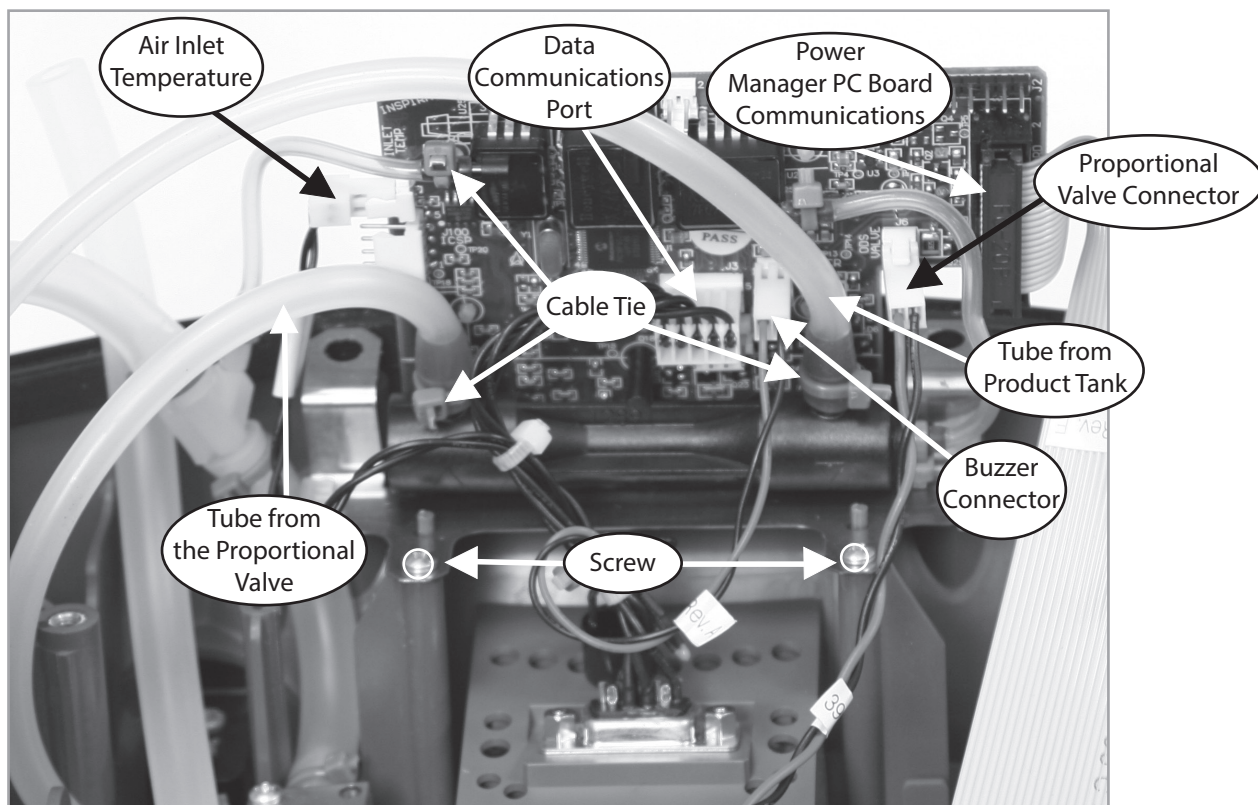
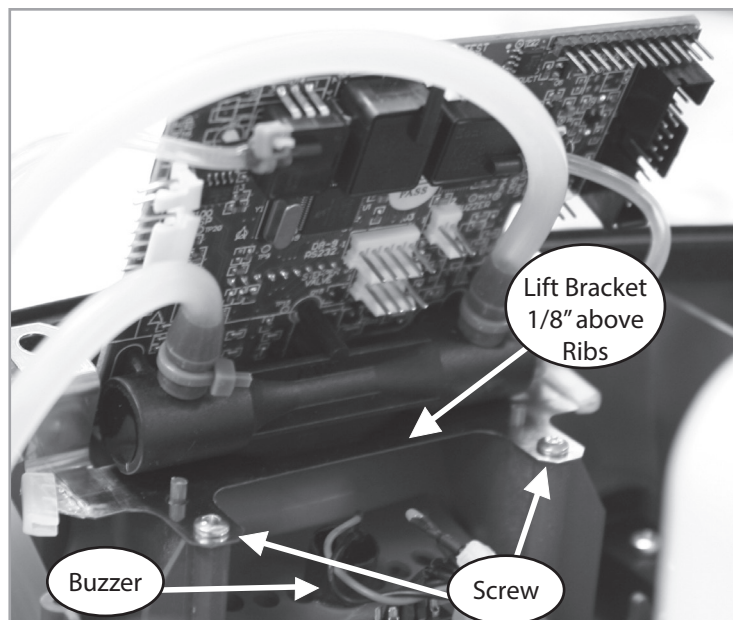

Figure 51: Control Board Removal (ATF Module not shown for clarity).
Figure 52: Control Board Installation.
2. Remove the 2 screws (M3x10 Plastite Screw, P/N 6950-310-SEQ) holding the Control Board Assembly to the Unit Case as shown in Figure 51.
3. Lift the Control Board Assembly and disconnect the Inlet Air Temperature, Data Communications Port, Power Manager PC Board Communications, Proportional Valve wire harness, and Buzzer wire harnesses as shown in Figure 51.
4. Lift the Control Board out of the Unit. Cut the green cable tie to the silicone tube that is connected to the sensor as shown in Figure 51. Disconnect the silicone tube that is attached to the sensor. Cut the green cable ties to the silicone tubes that are connected to the flow tube as shown in Figure 52. Disconnect the silicone tubes that are attached to the flow tube.
7. To install a new Control Board Assembly, cut the cable tie used to pinch the silicone tube coming from the product tank. Attach this tube and the tubes from the Proportional Valve and from the Product Tank to the flow tube as shown in Figure 51. Secure with a cable tie. Connect the silicone tube to the sensor as shown in Figure 51. Secure with a cable tie. Place the 2 screws in the sheet metal bracket as shown in Figure 52. Inspect the tubing to ensure the tubing is not kinked.
8. Lower the Control Board Assembly into the Unit Case only to where the aligning pins go through the sheet metal bracket; make sure the sheet metal bracket is 1/8" above the supporting ribs – this will ensure the 2 screws stay in the bracket and do not fall in the unit case as shown in Figure 52. Start the 2 screws by turning them 2 times into the unit case. After starting both screws, lower the Control Board Assembly onto the supporting ribs; tighten the 2 screws to the unit case.
9. Connect the Inlet Air Temperature, Data Communications Port, Power Manager PC Board Communications, Proportional Valve wire harness and Buzzer wire harnesses as shown on Figure 52.